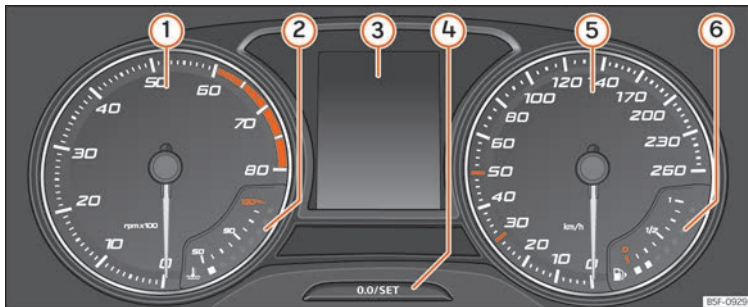

Fig. 54 Instrument panel, on dash panel.
Details of the instruments »» **Fig. 54:**
- Briefly press the button  »» Fig. 54